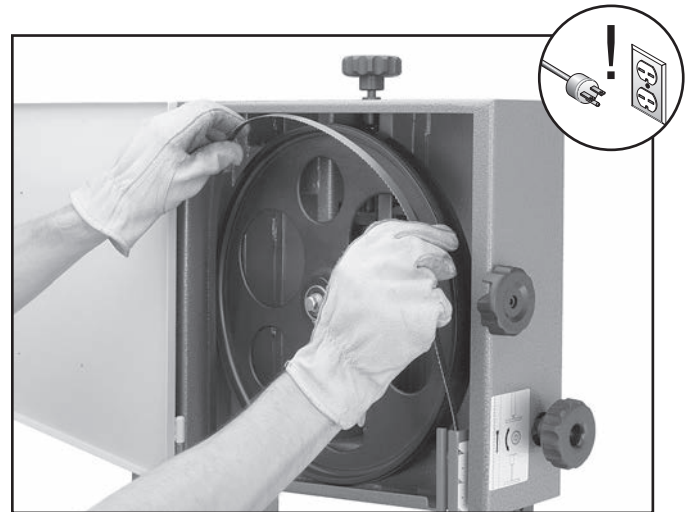

Figure 45. Placing blade on the wheels.
2. Slip the blade through the guides, and mount it on the upper and lower wheels (**Figure 45**).